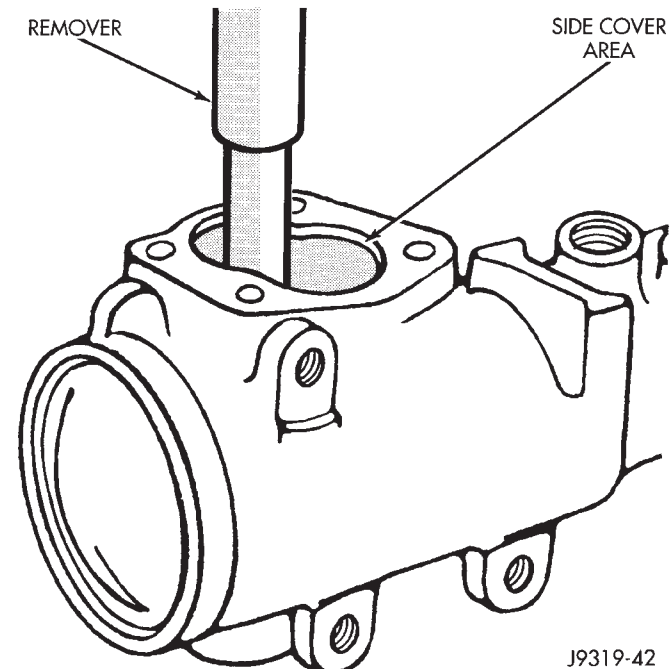

Fig. 8 Needle Bearing Removal
- (9) Remove washer from the housing.
(10) Remove oil seal from the housing with a seal pick.
(11) Remove pitman shaft bearing from housing with a bearing driver and handle (Fig. 8).